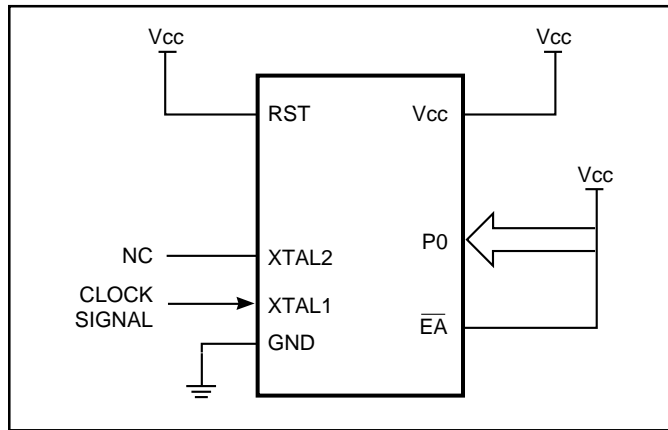

Figure 12. Active Mode
1. See Figures 12, 13, 14, and 15 for I_{cc} test conditions.